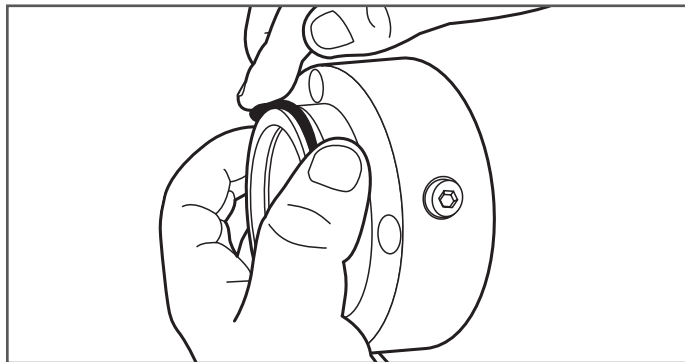

Figure 9-3
3. Remove outer O-ring on the middle section of DoubleTrac® fitting. Inspect O-ring for tears, scuffs, or any visible defect. Replace O-ring as needed (Figure 9-3).